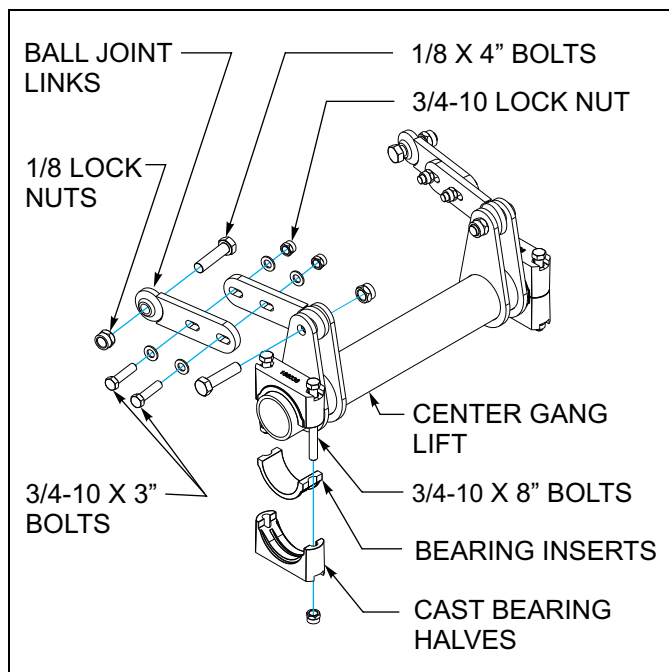

Figure 3-13: Center Gang Lift
4. Assemble the ball joint links to the center gang lift and to the center gangs as shown in (See **Figures 3-13 & 3-15.**) Use 1-8 x 4" long bolts and lock nuts to secure the ball joints to the center lift and the gang assemblies. Use 3/4-10 x 3" long bolts, hardened washers, and lock nuts to assemble the links together. Assemble links as shown with the front link to the inside.